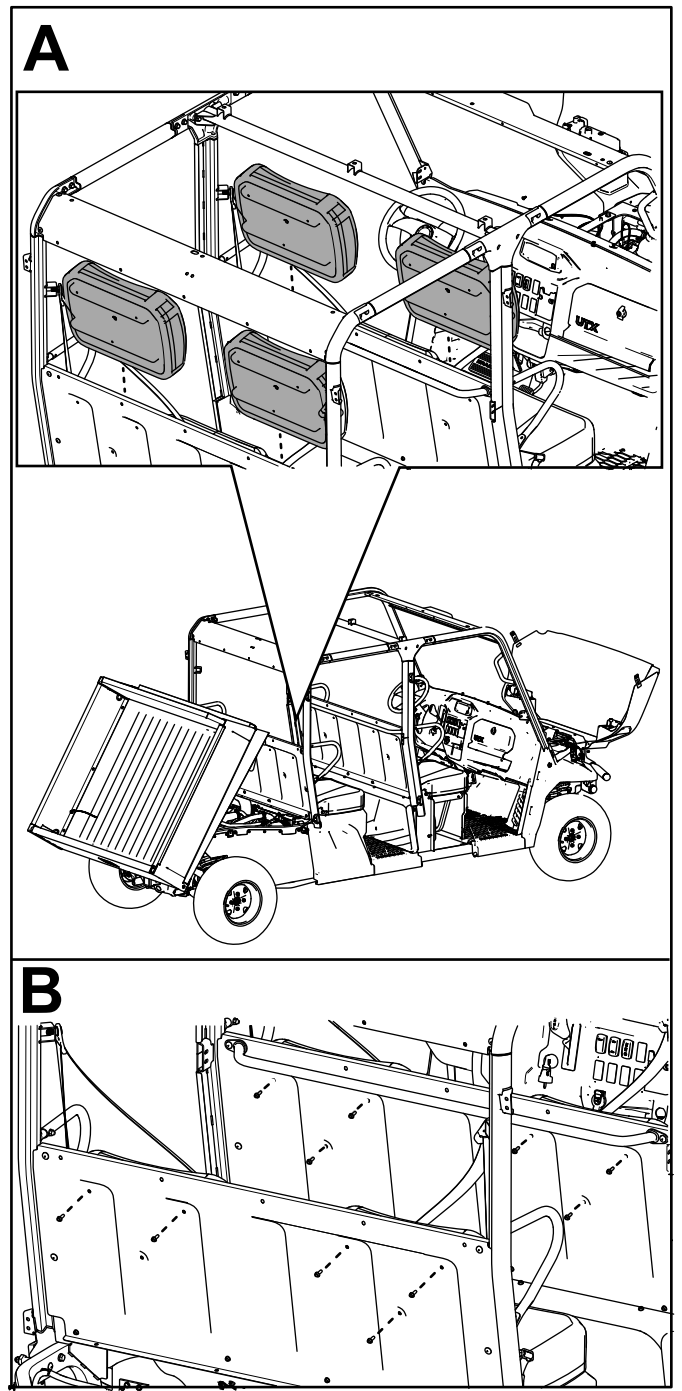

Figure 65
- E. Secure the 4 seat backs to the seat panels using 11 hex-washer head bolts (1/4 x 3/4 inch) as shown in Figure 65.